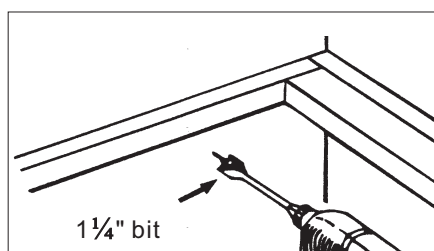

Fig.8
- After turning off the proper 120 volt circuit at the service entrance, drill out the electrical power line access hole marked on the cabinet bottom or wall. Use a 1 1/4" wood bit. To operate the electric drill, use an extension cord connected to another circuit. (Fig.8)